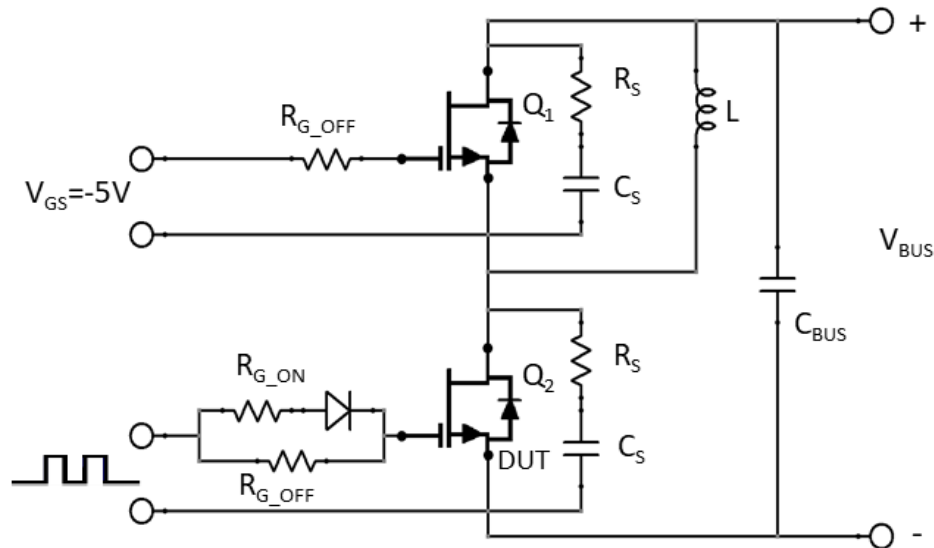

Figure 24. Clamped inductive load switching test circuit
4. The switching performance are evaluated with a RC snubber circuit as shown in Figure 24.